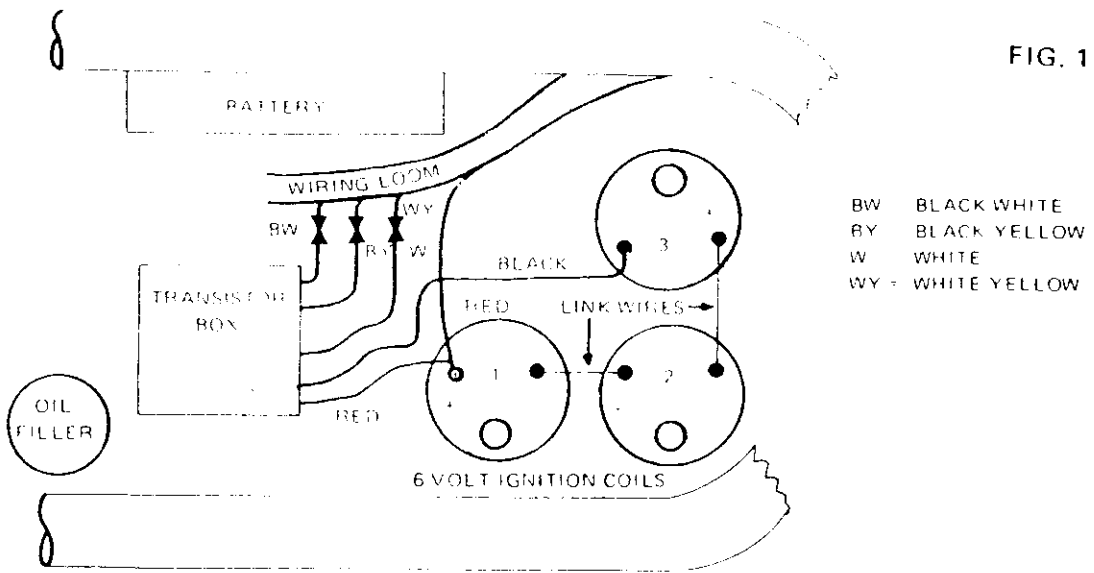

Fig. 2 The magnetic rotor
- 19) Fit the magnetic rotor into the taper from which the auto-advance unit was removed, hand tighten the caphead screw and washer provided. If the screw bottoms in the thread before tightening the rotor, cut a small amount from it or place a second washer under its head. The position of the magnets are shown in Fig.2